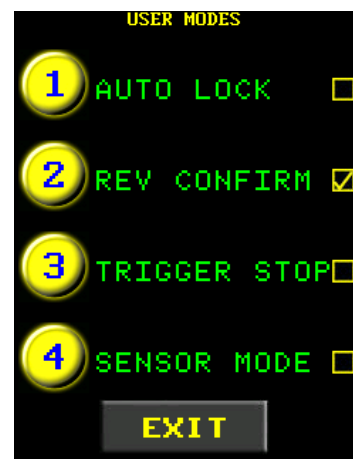

Figure 5.9-2: User Modes Menu
3. Select "Rev Confirm" to enable or disable Reverse Confirmation (Figure 5.9-2).